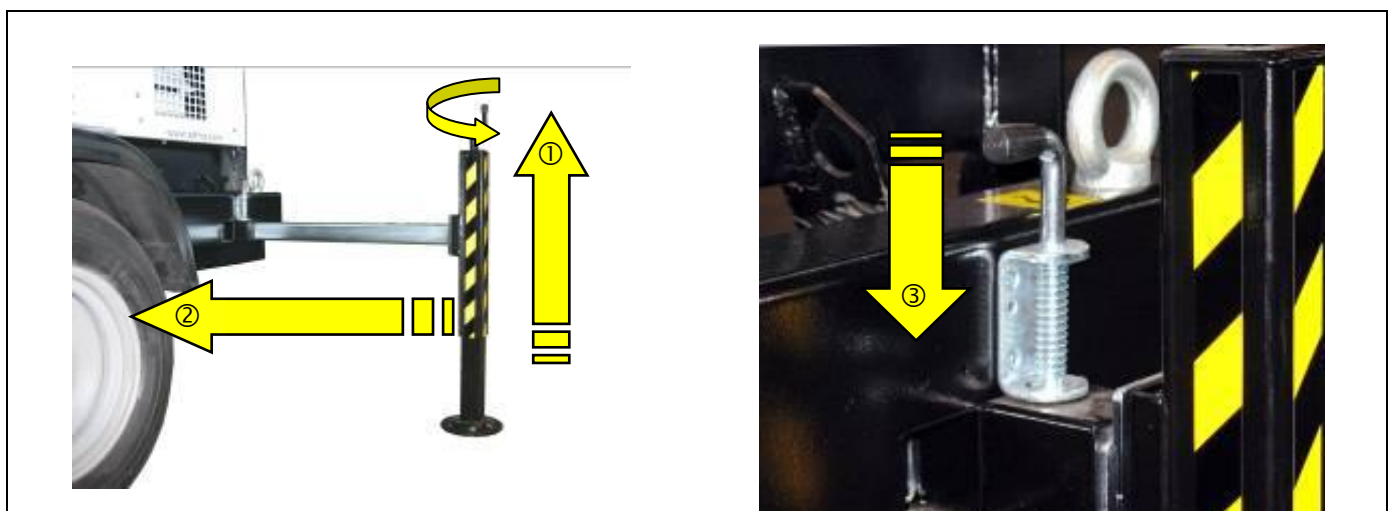

Figure 5.10 – Placing the stabilisers in the rest position
- 5 Raise the front and rear stabilisers using the handle, bring the stabilisers to their rest position and lock the handles (fig. 5.10 and 5.3).